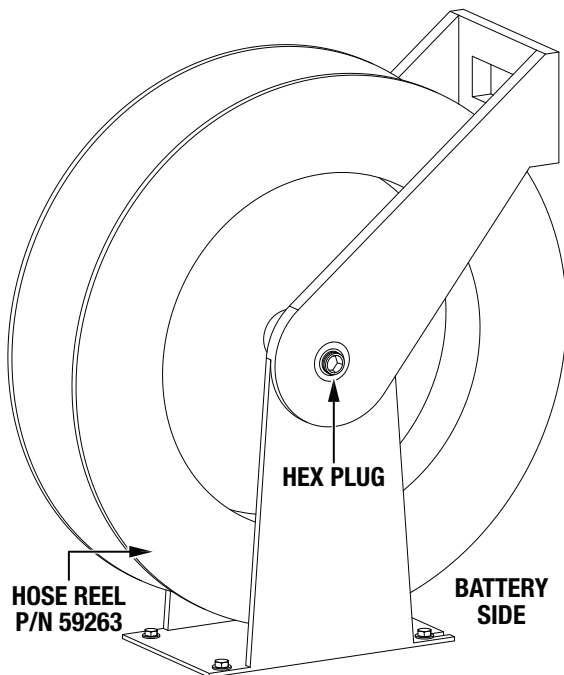

Figure 29. Hex Plug Removal (Battery Side)
11. If installing the dual hose reel kit (P/N MQPDUALREEL50), remove the hex plug on the hose reel (P/N 59263) on the **battery side** of the air compressor. See Figure 29.